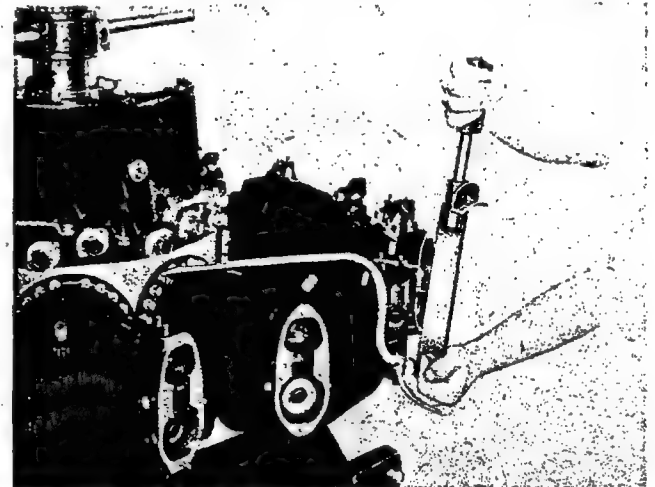

Figure 52—Tightening Cylinder Hold-down Cap Screw
(4) AAF personnel will tighten two cap screws on opposite sides of the cylinder at approximately 90 degrees from each of the special locating cap screws to a torque of approximately 300 inch-pounds. Navy personnel will tighten the cap screws to a torque of 300 to 425 inch-pounds. Install two more cap screws on opposite sides of the cylinder about 45 degrees from the previous pair, and tighten to the same torque. Proceed in the same manner until all cap screws are tightened. Remove the special locating cap screws and replace them with standard cap screws and washers. Finally, tighten all of the cap screws consecutively around the cylinder, using the torque specified in the Table of Limits, AN 02-35-1. (See figure 52.)
(5) The following precautions will be observed when using a torque wrench: